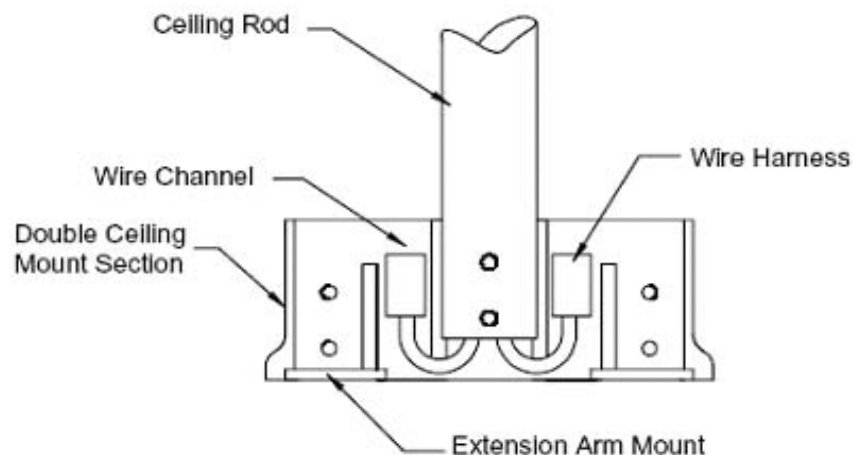

FIGURE 8: Wire Channel
- Bring one section of the double ceiling mount casting to the ceiling rod and fasten it to the rod with the 2" long bolts (P/N 0001311) and cap nuts (P/N 0001312). Tighten the cap nuts just enough to hold the section in place; they do not need to be fully tightened at this time. Bring an arm assembly to the double mount section and fasten the transformer housing into the extension arm mounting cavity with two $\frac{3}{8}$ " long mounting screws (P/N 0001291). Install the other arm assembly to the section with two more $\frac{3}{8}$ " long screws. Route the wire and Molex connector from the ceiling rod into the wire channel as shown in figure 8. Plug the connector at the end of each transformer housing to the mating Molex connector from the wire harness. Place each set of wires within the channel area.